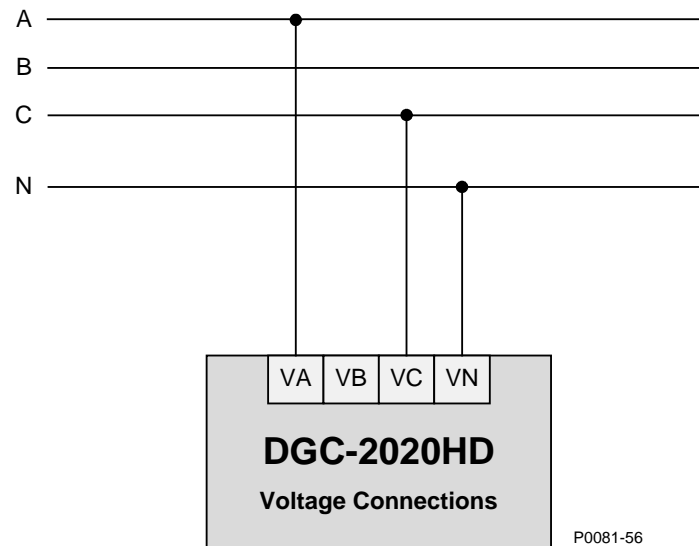

Figure 11. Single-Phase A-C Connections
- Single-phase A-C..... Figure 11
Figure 11 illustrates typical single-phase A-C connections for all DGC-2020HD bus voltage sensing connections: Generator, Bus 1, and Bus 2. Use the terminal numbers listed below for connecting the desired bus type. Refer to the *Terminals and Connectors* chapter for rear panel terminal numbering.